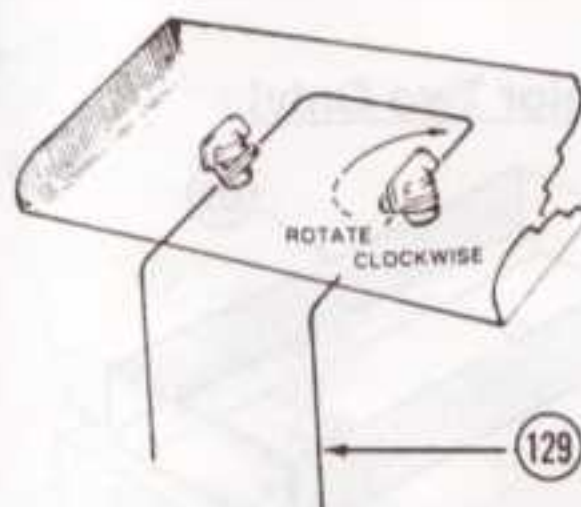

FIG. 53
15. Insert the wing wire (129) from the back and through the wing buttons (130) (131) until the wing is in the desired position. Fig. 53